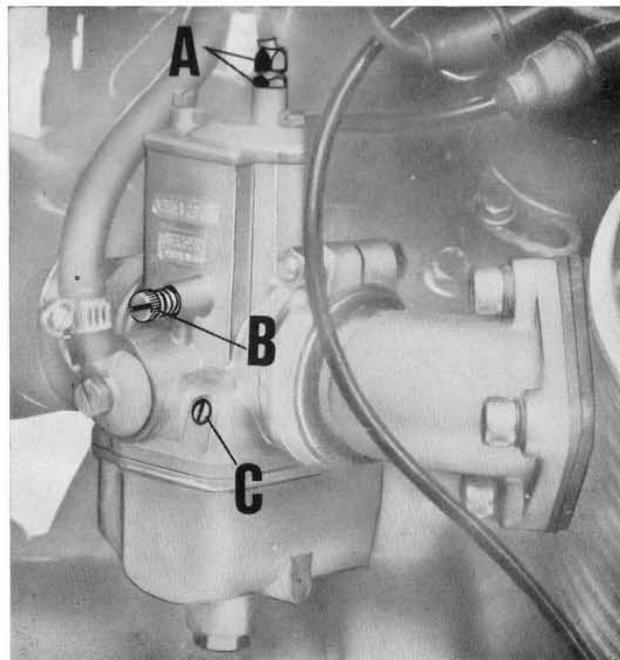

Fig. 17
- 2) With the filter box and the rubber inlet manifold removed, check that both gas valves open at the same time. This is done by turning the throttle grip and at the same time feeling with your fingers on the carburetor slides if these open simultaneously by the same amount. Should one valve open before the other, correct by setting screw A (See fig. 17) in the position where by turning the throttle both valves open simultaneously.
- 3) Adjust the idling speed by acting on screw C in fig. 17. Screwing this in reduces the fuel flow and viceversa increases it. To adjust, tighten the screw and then undo it 1½-2 turns for the left cylinder carburetor and 2-2½ turns for the right cy-
linder carburetor. With the engine revolving at about 1000-1200 r.p.m., disconnect the plug lead of any one of the cylinders and lightly turn screw C in fig. 17 of the opposite carburetor on to the position which will give the best idling speed, i.e. until the engine revs increase slightly. The same operation should be repeated
- 4) Disconnect the R/H cylinder plug lead, start the engine, and ensure that it stops after firing 4 or 5 strokes. If it dies out earlier or later, it is necessary to adjust idling screw B in fig. 17 to the point where the engine will stop after firing 4 or 5 times.
If the R/H cylinder is normal, the engine should stop after firing 4 or 5 times. If not, screw B in fig. 17 should be similarly adjusted to the position where it does so. The L/H cylinder plug lead is then reconnected.